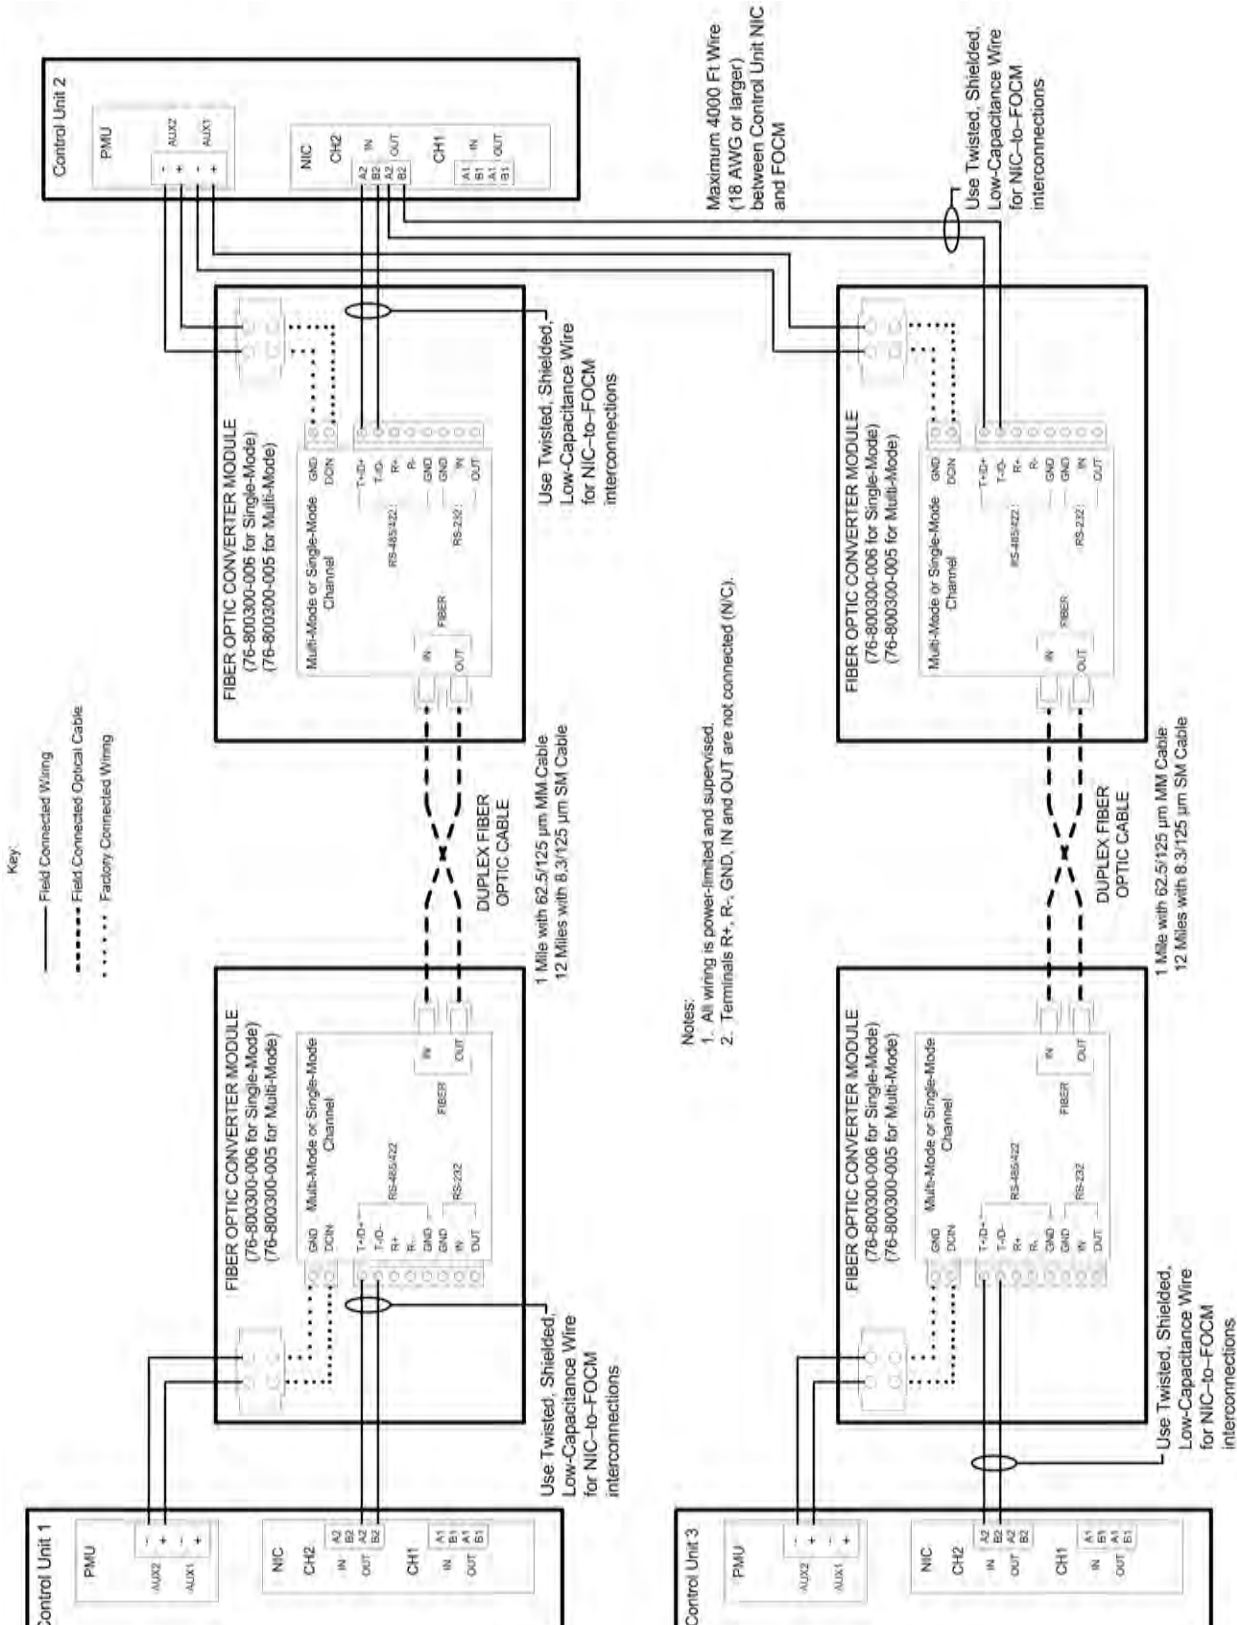
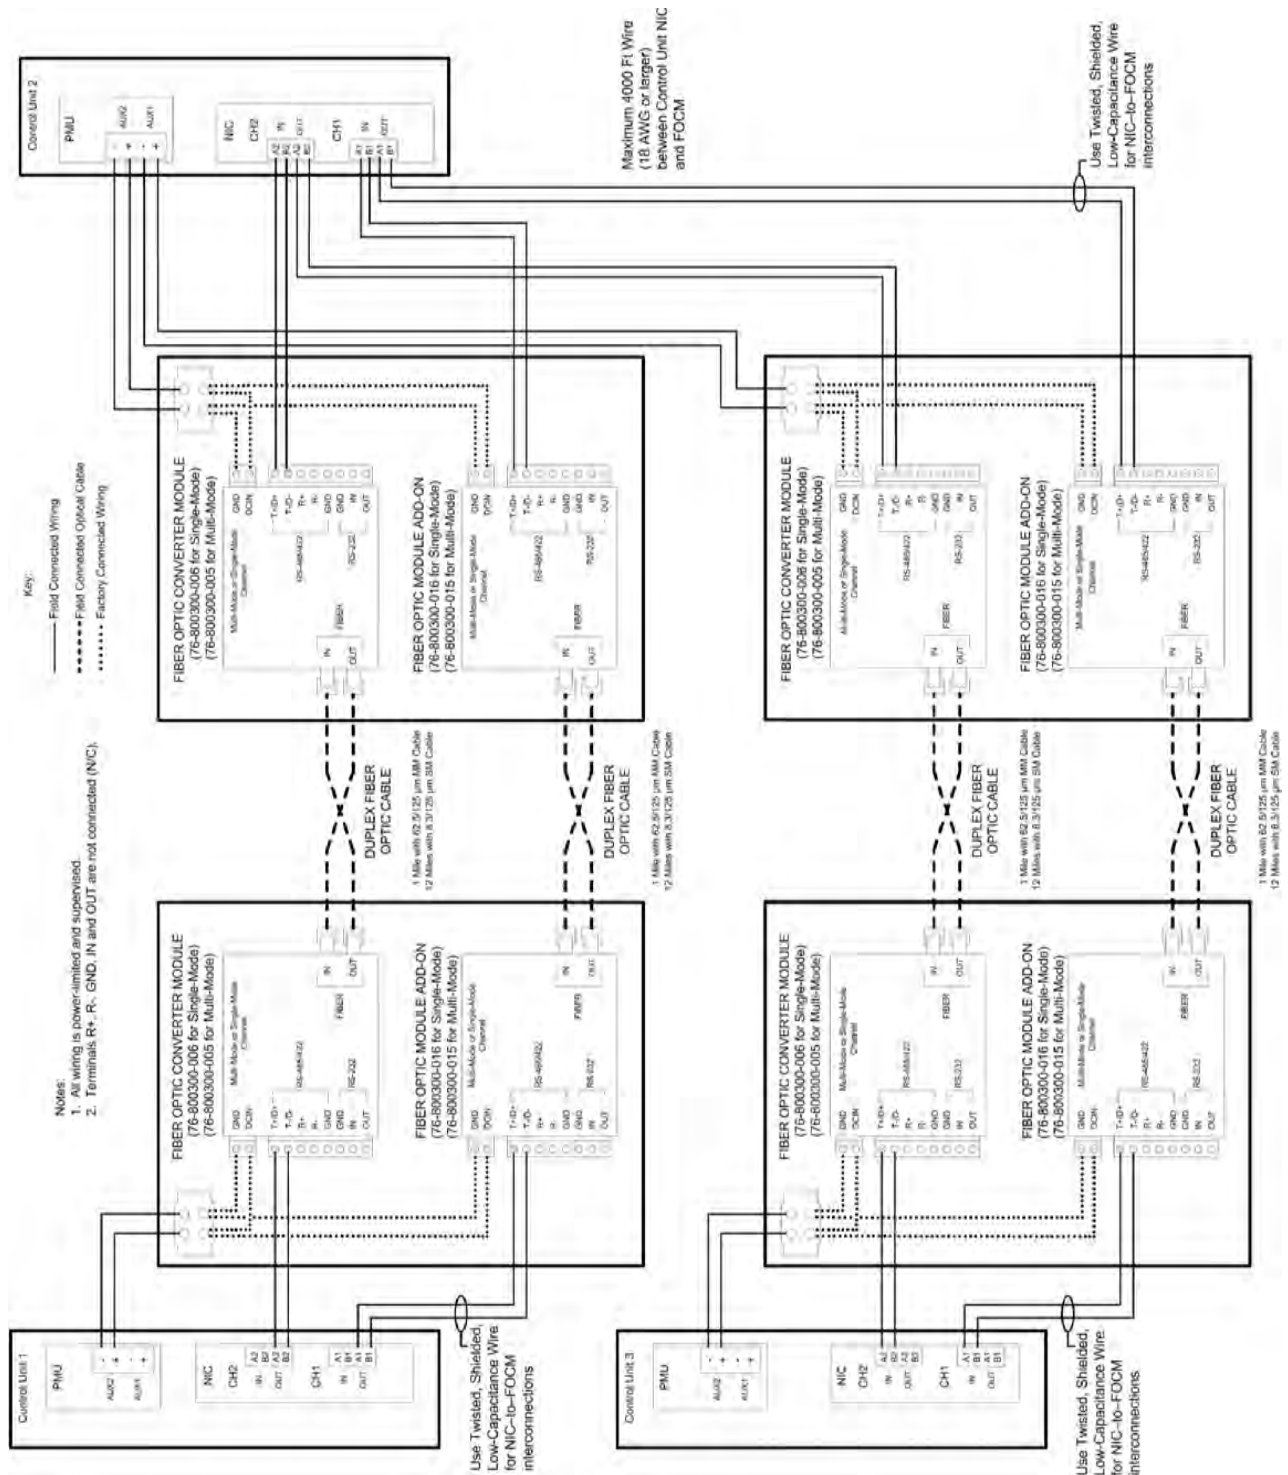

Figure 2-45. Wiring Diagram For Single Channel FOCM
Figure 2-46. Wiring Diagram For Dual Channel FOCM
5. With the enclosure secured to the wall and power removed from the control unit, RS485, power and duplex fiber-optic cables can be connected through the conduit knock-outs. Refer to the wiring diagrams provided in Figure 2-45 (single channel) or Figure 2-46 (dual channel).
- Connect an RS485 data cable from the Network Interface Card terminal block J12 (for Channel 1) or J13 (for Channel 2) to the RS485 input terminal block mounted inside the enclosure. Refer to provided wiring diagrams in Figure 2-45 or Figure 2-46.